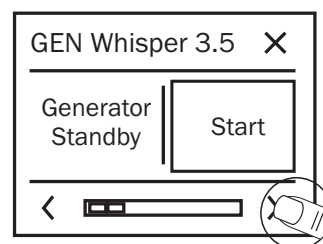

Figure 6
- 2 Figure 6: Touch the right pointing arrow > on the menu bar repeatedly until "Go to Configuration" is shown.